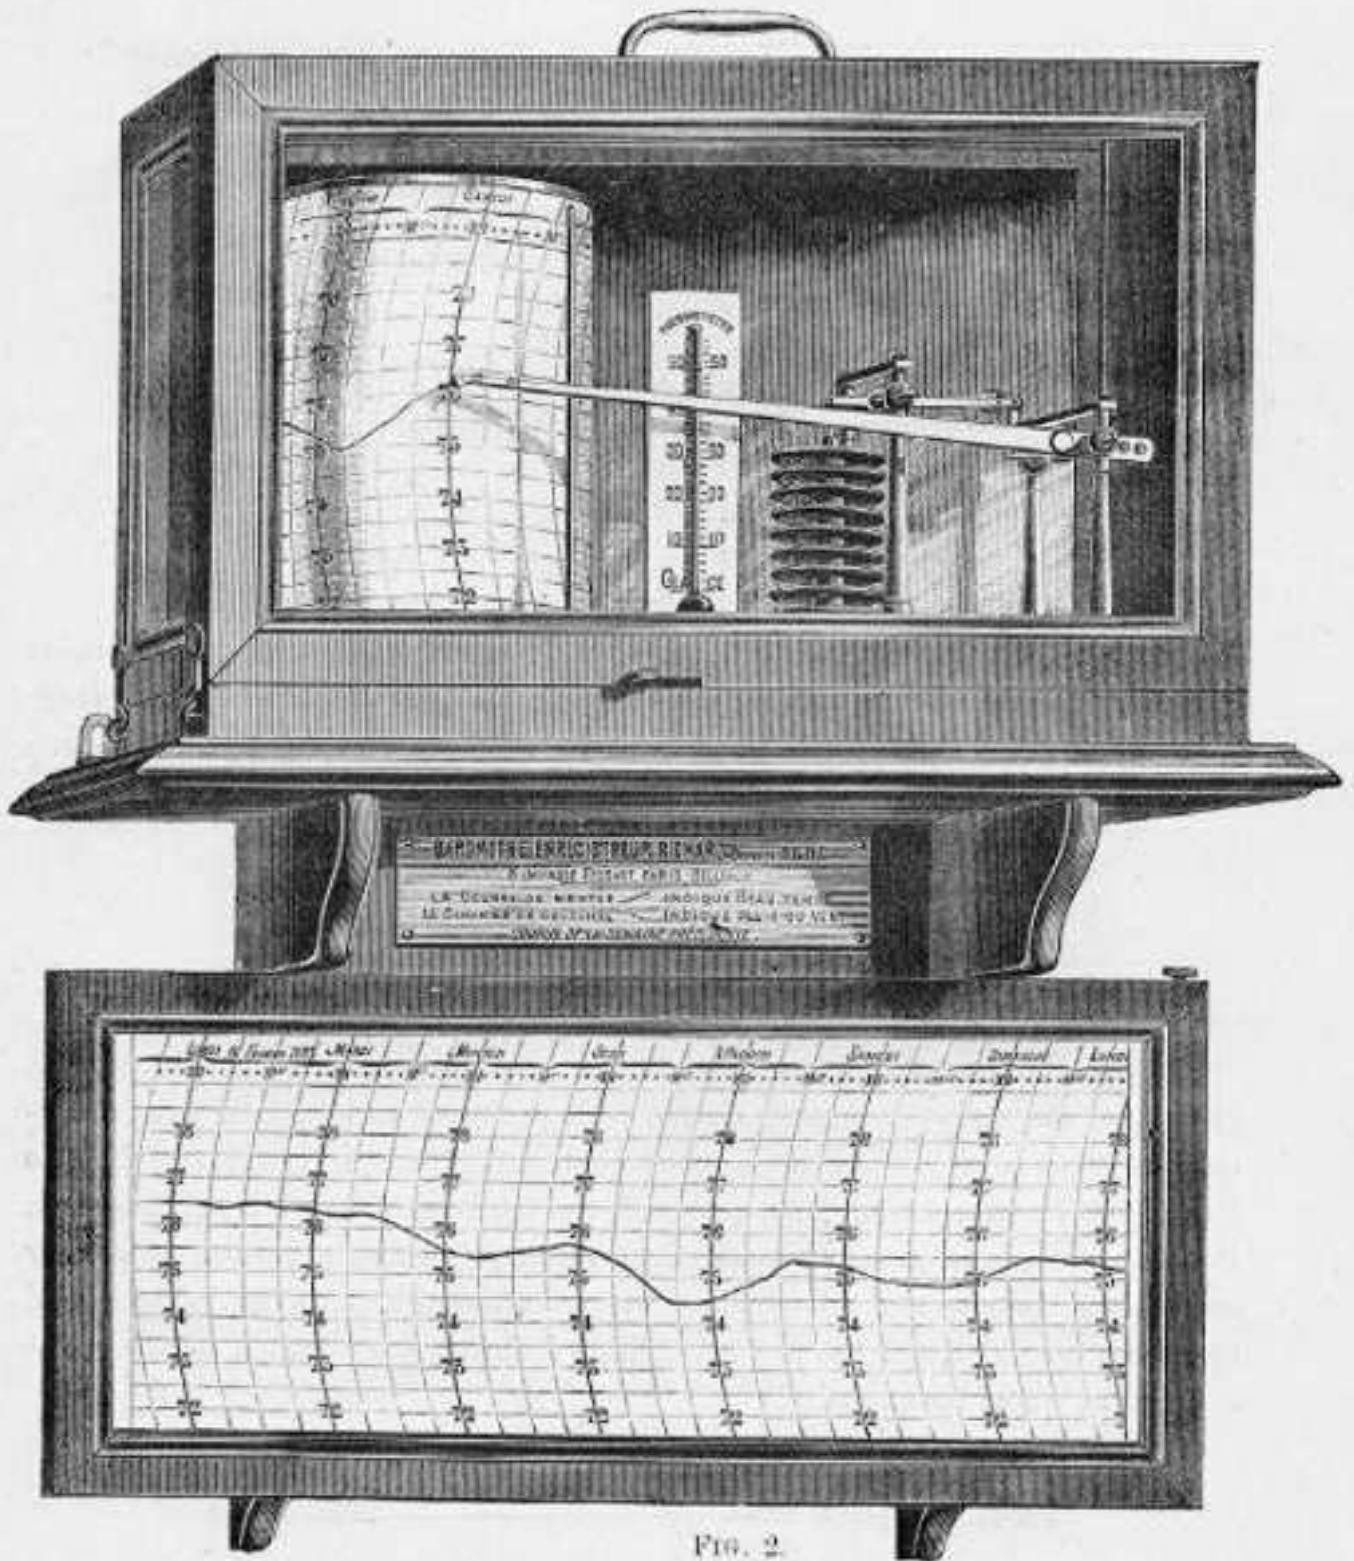

FIG. 2.
**Modifications.** At seaside stations, and in clubs and public libraries, it is desirable to exhibit, along with the actual record for the time, that for the previous week. This object is met by Fig. 2.